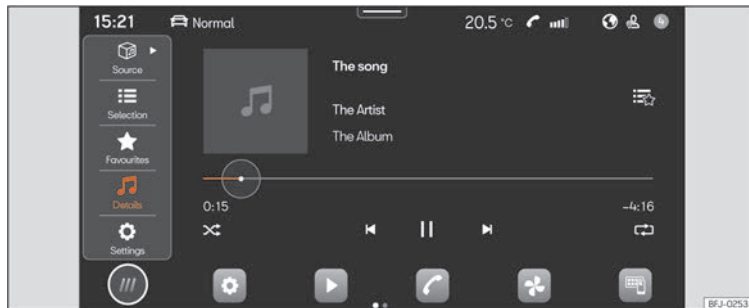

Fig. 133 Schematic diagram: Media view
- Press **HOME** > ► >>> **Fig. 133**.